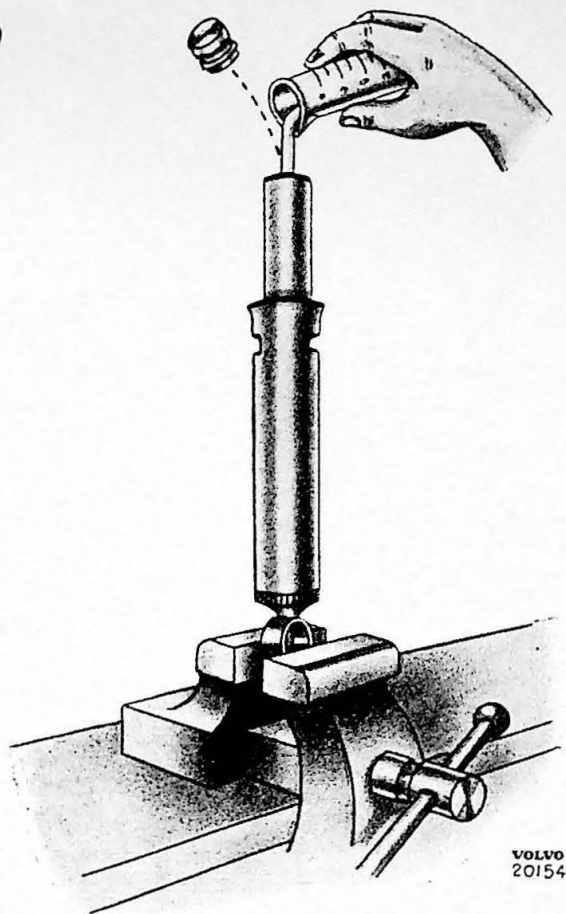

Fig. 10.
3. Place the dust cover in a vice with the pressure tube turned upwards and fully extended, Fig. 10. Measure the required amounts of shock absorber fluid accurately (front 97 cm³, rear 178 cm³), and pour it into the pressure tube until it is wholly filled. Replace the valve (6).